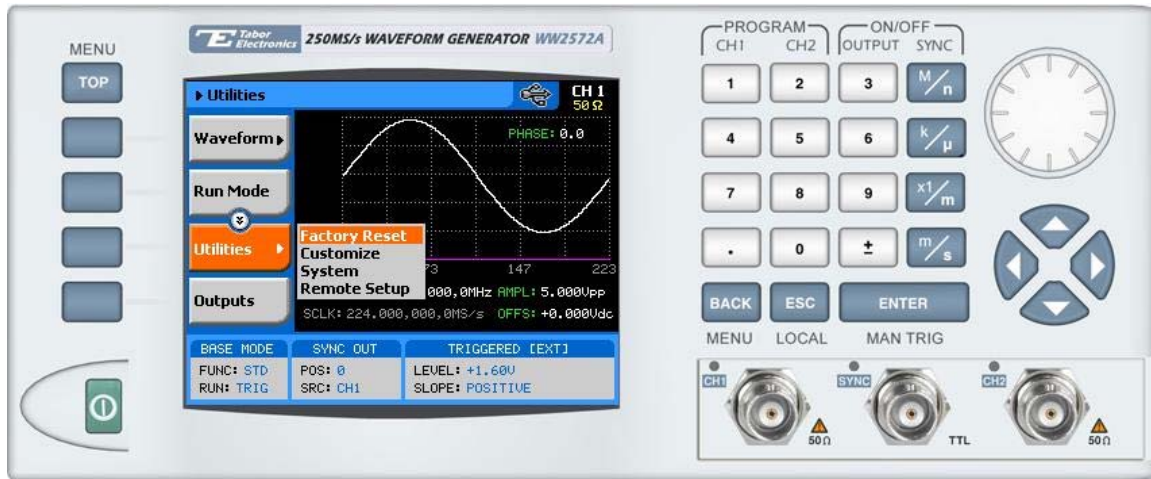

Figure 3-1, Reset 2572A to Factory Defaults
Observe Figure 3-1 and reset parameters to factory defaults as follows:
The 2572A has over 300 parameters that control functions, modes, waveforms and auxiliary functions. Due to the complexity of the product, the functions were divided to logical groups and sub-groups and access to these groups is provided using the soft key menus. There are five main menus, of which can be accessed after pressing the TOP soft key; These are shown in Figure 3-1 and are mark as item 3 (A, B, C and D). The main menus are Waveform, Run Mode, Utility, Outputs and Auxiliary. Each main menu provides access to sub-menus as summarized in Tables 3-2 to 3-5. Note that the description in these tables is given for general understanding of what is available in terms of operating the instrument. For detailed instructions, check the appropriate section of the manual.